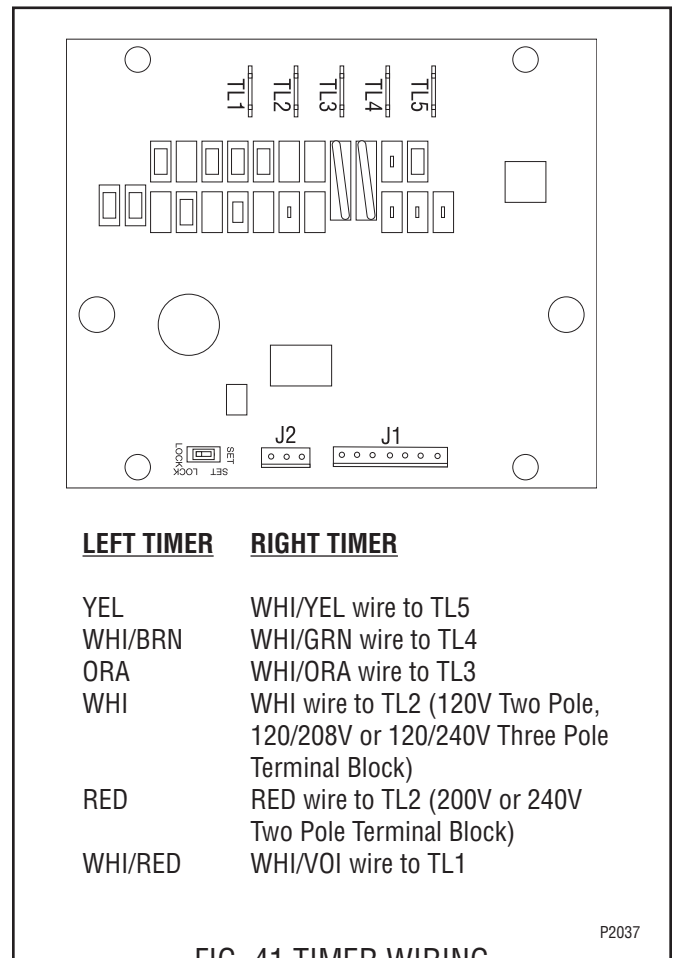

FIG. 41 TIMER WIRING
4. Attach all wires to the replacement timer board prior to installation to the component mounting bracket. Refer to FIG. 41 when reconnecting the wires.